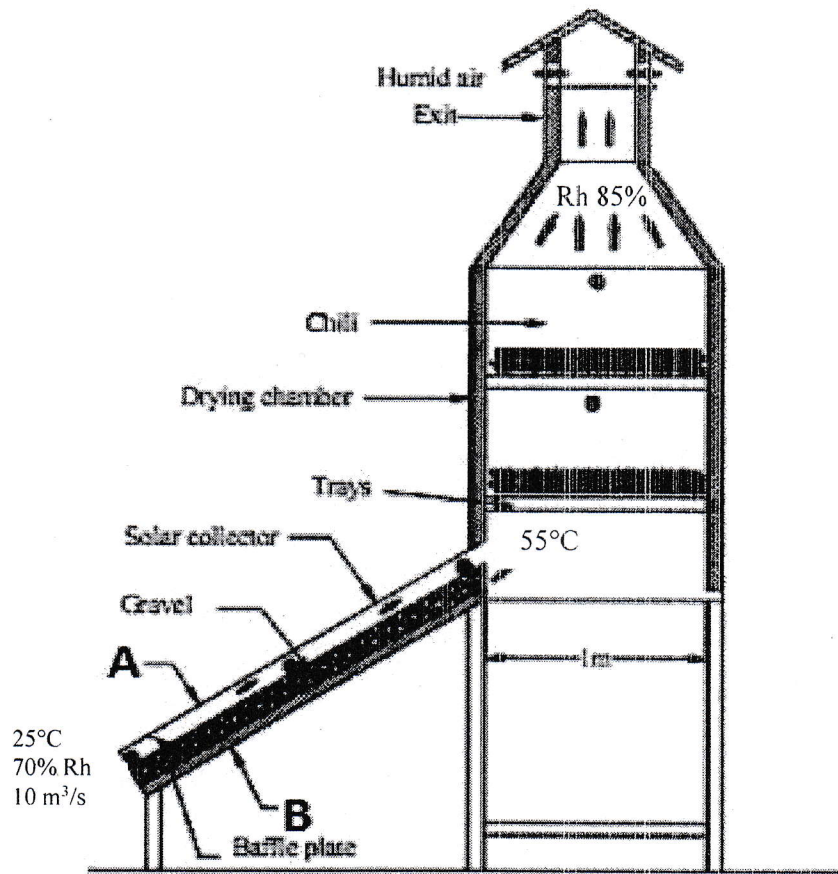
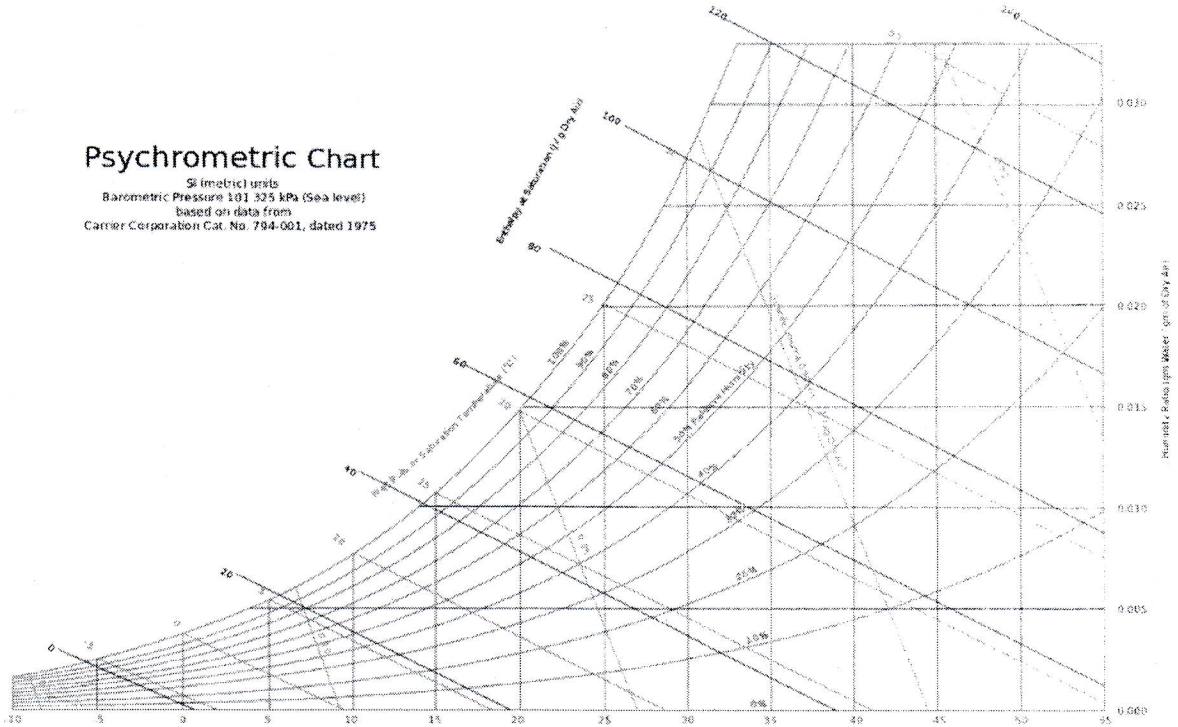

Figure 2
Figure 3
(B) Solar dryer for chili drying is given in Figure 2.
(ii) Thermodynamic properties of drying air at different stages are given in the Figure 2. Visualize the changes of psychrometric properties of above process using arrows in the given Figure 3.